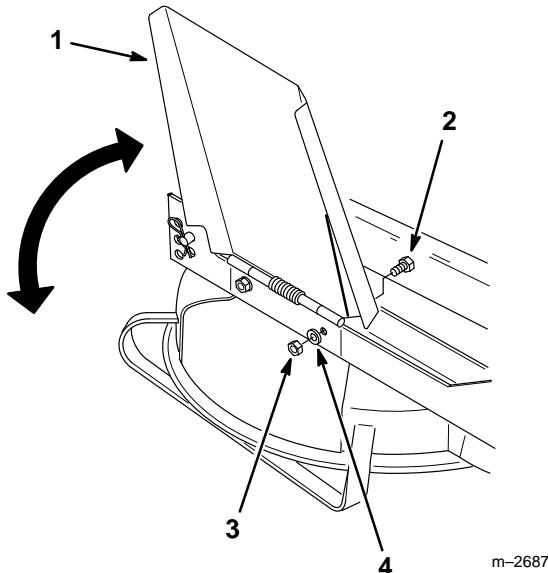

Figure 29
1. Locknut (2)	3. Hex Head Bolt (2)
2. Flat Washer (2)	4. Discharge Chute Cover
4. Install the discharge deflector onto the right side of the deck using the hex head bolts, flat washers and locknuts and removed in step 3 above (Fig. 29).